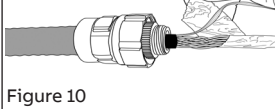

Figure 11
- Remove filler materials. Do not disturb/damage inner shields (Figure 11).